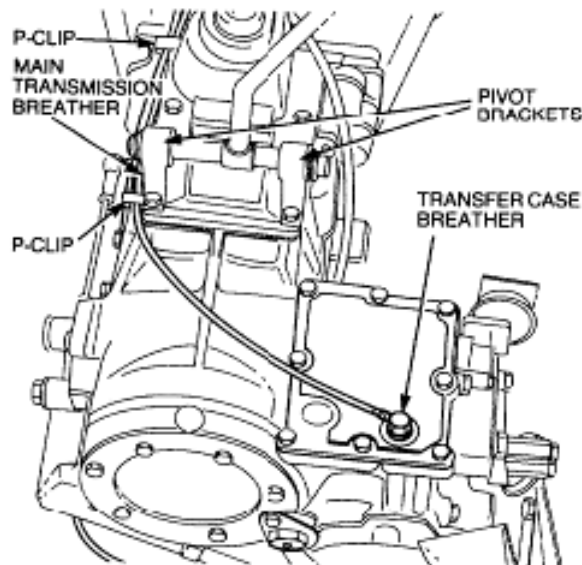

Figure 63 Breather Hose Removal From Transmission
- d. Remove the two banjo bolts and sealing washers securing the breather hoses to the top cover and transfer case cover (Figure 63).